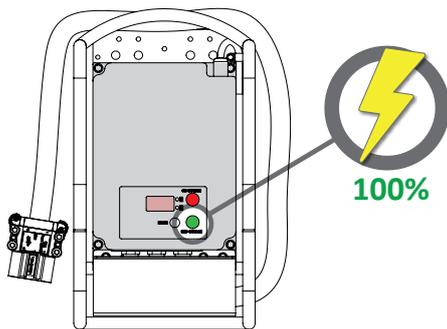

Fig. 14F - Wait until fully charged
5. Once the battery reaches 100%, the red light on the charger will be replaced by a green light (Fig. 14F).